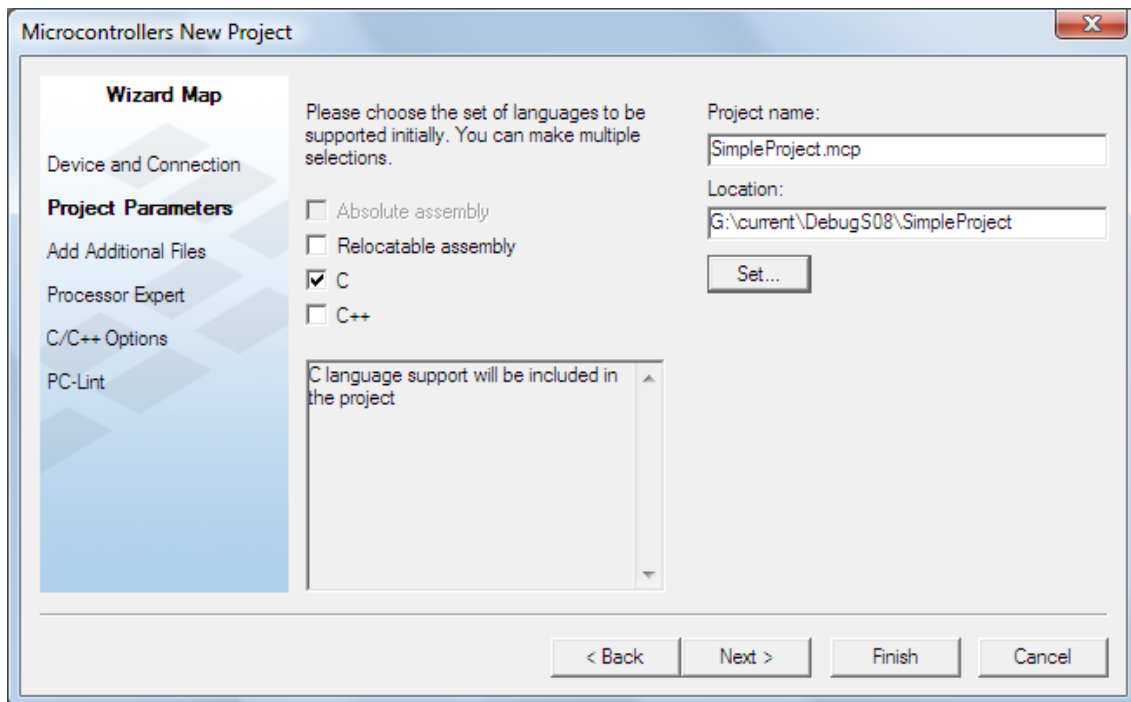

Figure 30: Specifying the project name and location
3) In the next step (Figure 30), specify the name to give to the CodeWarrior project and its location, using the Set . . . button.